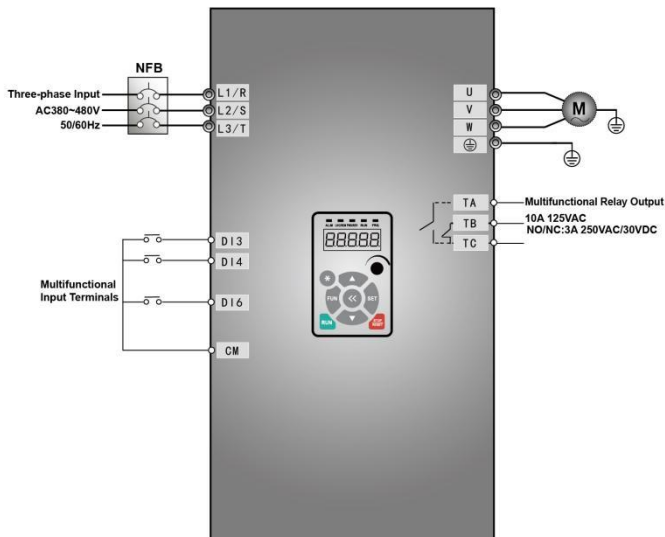

Fig 5-8 Wiring Diagram 2
- (1) Connect the wires in accordance with Figure 5-8. After having checked the wiring successfully, switch on the circuit breaker, and power on the inverter;